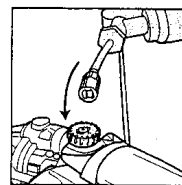

Fig 16
5) Take the Air Pump Valve Seat and attach it to the Air Valve Seat on the Orange Pressure Cap. Turn the Valve Seat clockwise until it tightens. (Fig 16) DO NOT OVER TIGHTEN.